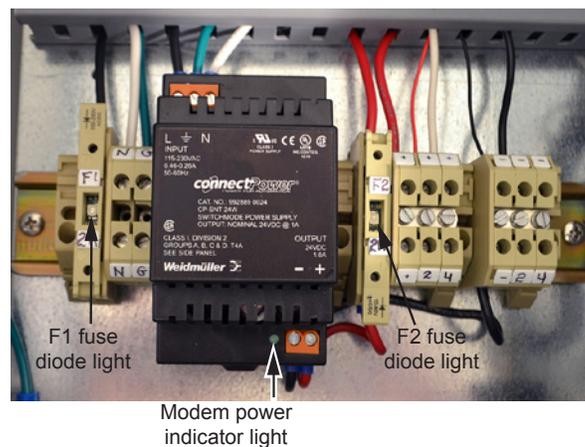

Figure 4.10—F1 and F2 fuse housing, closed
7. Close the F1 fuse (Figure 4.10) to bring power into the box. The green indicator light on the modem power supply will come on to indicate that the fuse is working correctly.
8. Close the F2 fuse (Figure 4.10) to supply power to the modem and the connected Scanner 3100.
9. Verify that the modem indicator lights are illuminated (Figure 4.11). If no lights are visible, check the diode light in the middle of the fuse housing (Figure 4.10). If it is lit, the fuse is blown and must be replaced.